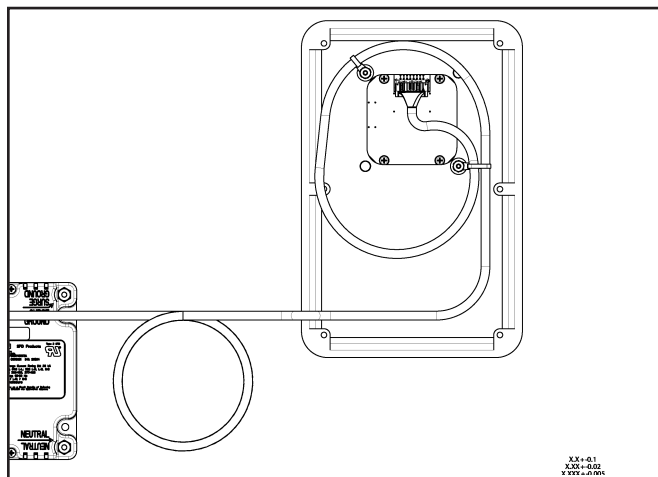

Figure 17. RDP Cable to Display Connection
3. Connect the RDP cable to the display. Use tie wraps (already on the RDP) to secure the cable to the RDP. See Figure 17.